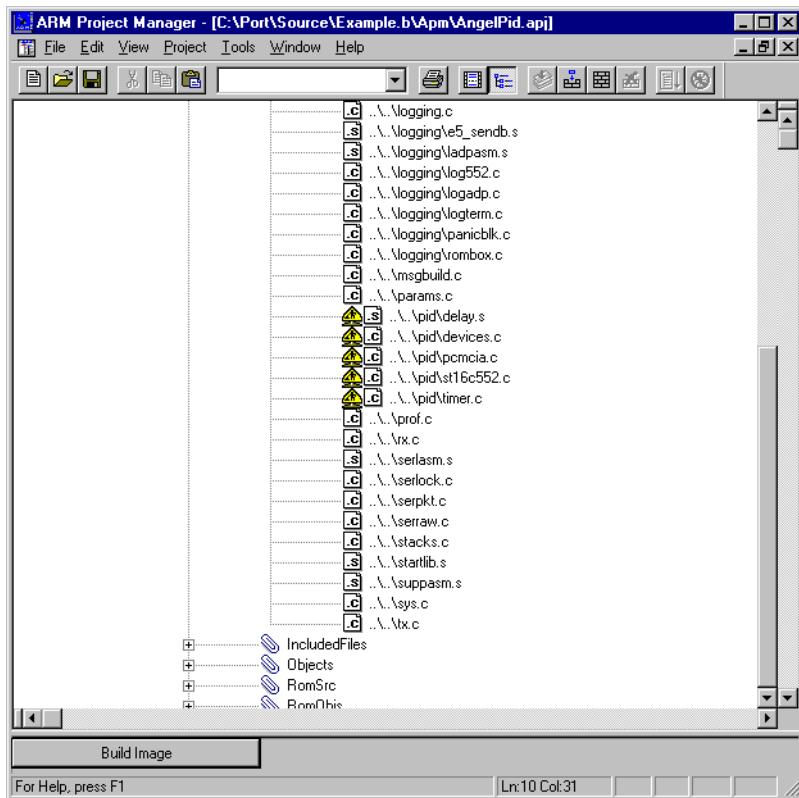

Figure 13-11 Replacing target-specific source files
13. Remove and re-add all target-specific source files to the project. These are the files that are located in the renamed pid directory, such as devices.c and makelo.c (see Figure 13-11 on page 13-56). In general you will have to replace these files with your own code when porting Angel.